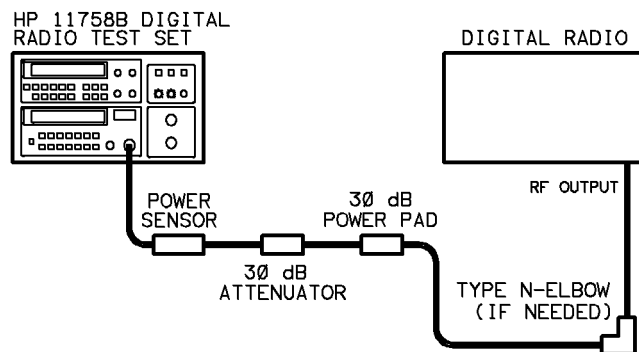

Figure 3-13. RF Output Power Setup
9. Connect the equipment as shown in Figure 3-13. Allowing for the losses across the pad and the attenuator, this setup would be used to measure the RF Output power from approximately 0 dBm to +40 dBm.